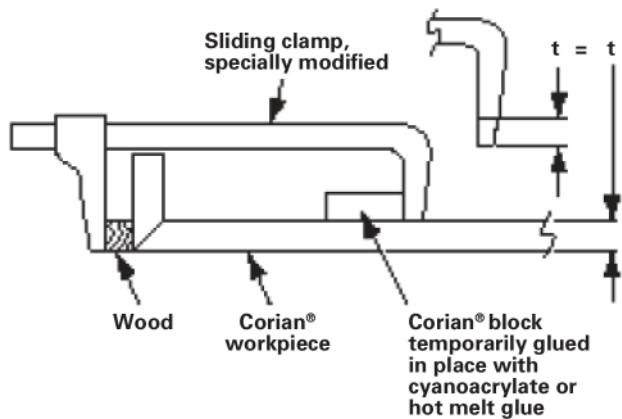

Figure O-3
- For joints near the end of a long piece, temporarily glue a clamping block to the piece with hot melt glue and modify the clamp as shown in Figure O-3.